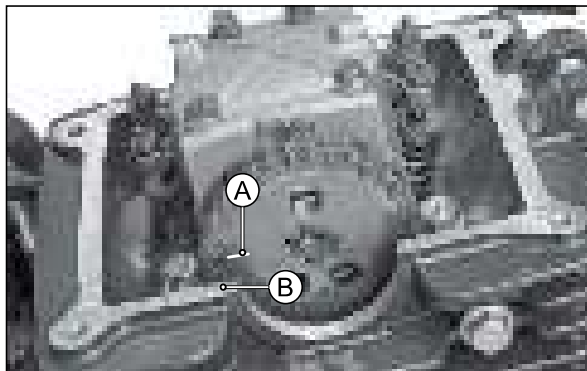

Fig. 3.80
- Assemble the sprocket camshaft along with the cam chain in the camshaft complete while aligning the sprocket camshaft mark (A) with the cylinder head surface (B) towards exhaust side. (Fig. 3.80)